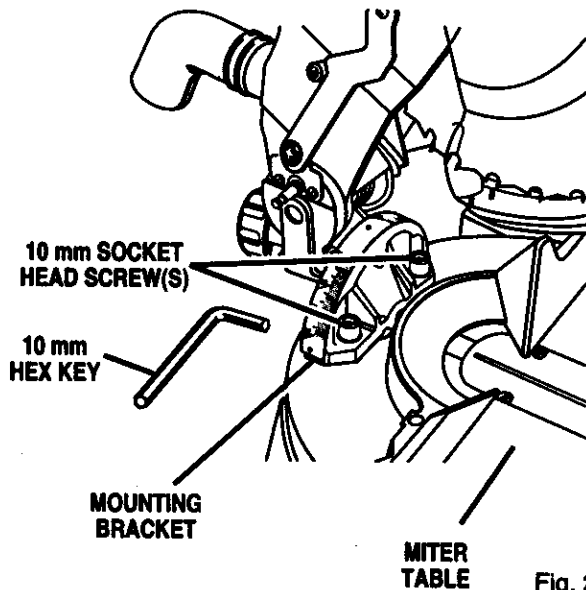

Fig. 20
- Using the 10 mm hex key provided, loosen the socket head screws that secure the mounting bracket to the miter table. See Figure 20.